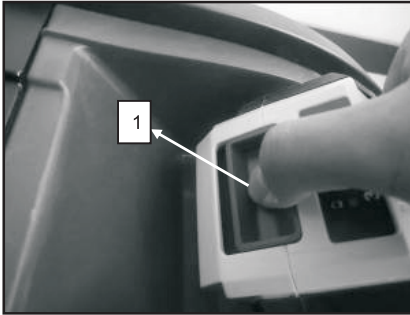
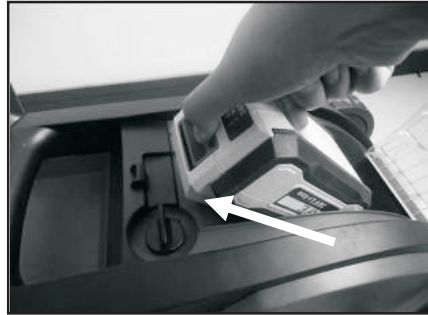

Fig.6A
Fig.6B
5.5 REMOVE THE BATTERY (Fig.6A/Fig.6B)